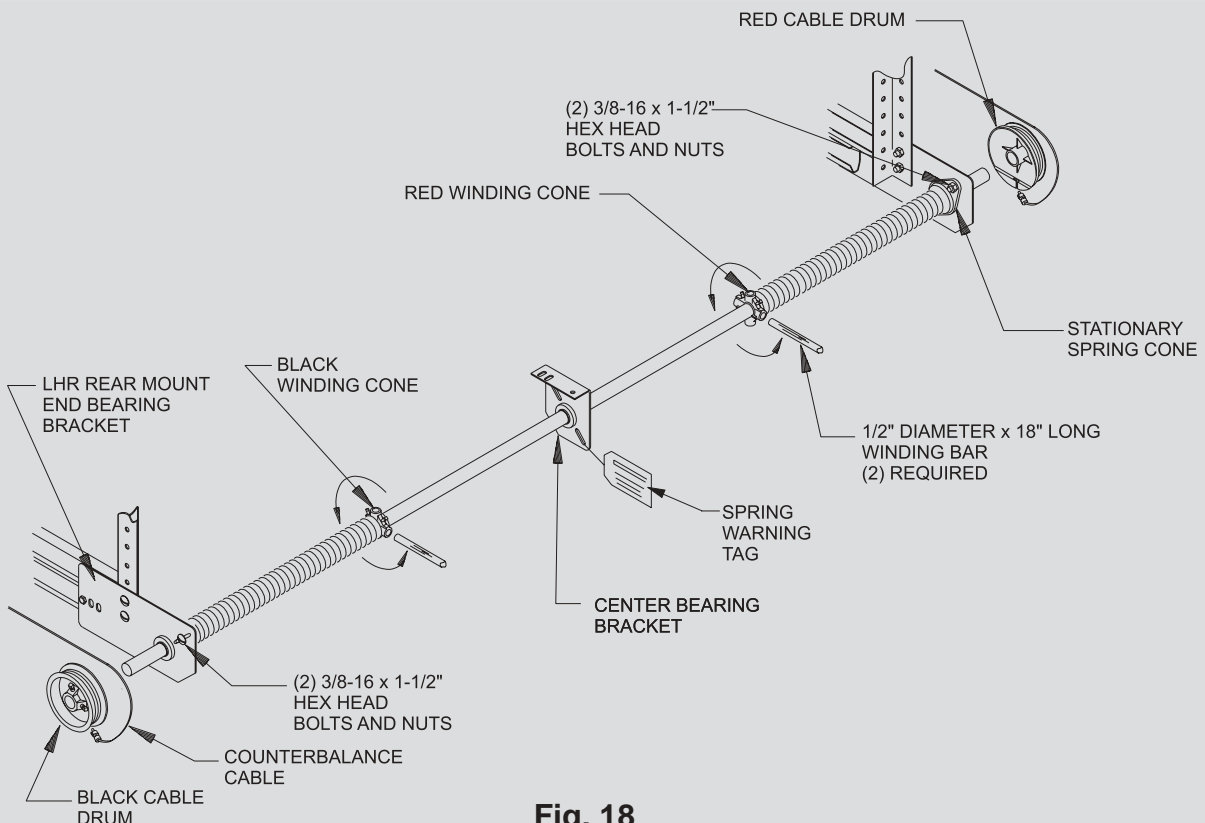

Fig. 18
Lift the torsion shaft off the floor. Slide one end of the shaft through the end bearing bracket (**Fig. 18**). Extend the shaft through the bearing until the opposite end of the shaft can be inserted into the other bracket. Equalize the amount that the shaft protrudes on each side. Slide the center bearing bracket to the center of the torsion shaft. Secure the bracket to the ceiling using perforated angle or wood blocking. Place the stationary cone(s) of the torsion springs in line with the slots in the end bearing brackets and secure using (2) 3/8-16 x 1-1/2" hex head bolts and nuts (each) as shown. Place the black drum over the left end of the torsion shaft (inside looking out) and the red drum over the right end.